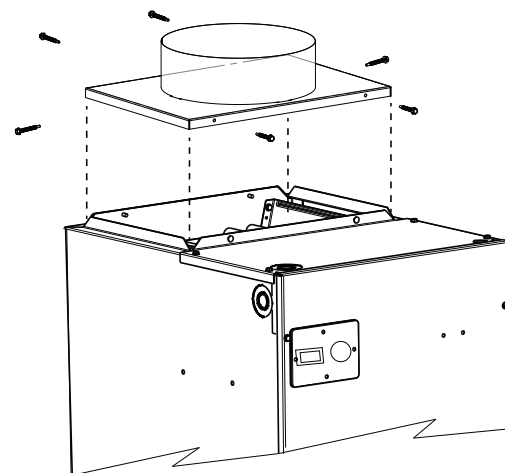

Fig. 3 – Typical Duct Transition Installation A200218A
10. Use the included screws to attach the round or oval duct transition plate to the top of the unit (Fig. 3). An optional air diffuser (KFADG0101SML/LRG) is also available, which has its own installation instructions.